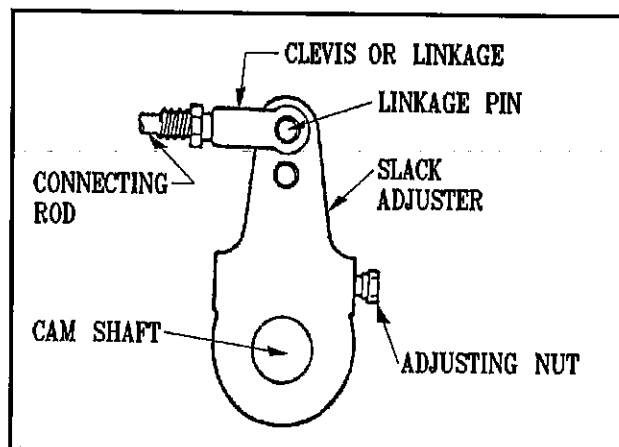

FIG. 6-2 SLACK ADJUSTER TERMINOLOGY
c. Disconnect the slack adjuster from the connecting rod by removing the linkage pin (See FIG. 6-2).